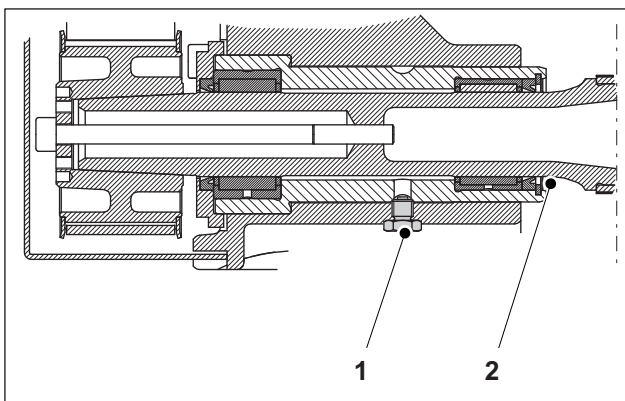

Fig. 29 Lubricating point D.S.
1. Lubricate the bearing of the driving roller D.S. via the recessed grease nipple D.S. (Fig. 29/1). Apply the grease gun only until grease emerges at the driving roller (Fig. 29/2).
2. Remove any residual grease on the shaft seal of the driving roller (Fig. 29/2).